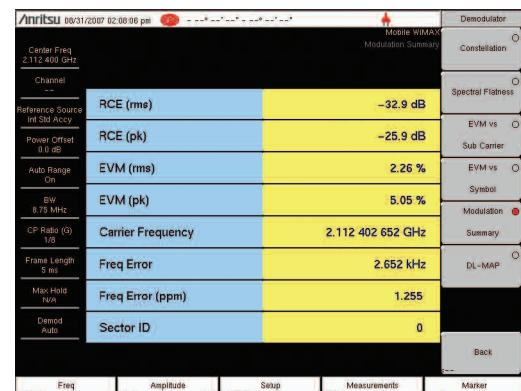

Figure 10. Modulation Summary view.
2. Press the Modulation Summary soft key to activate the measurement. The red dot on the soft key indicates it is selected (Figure 10).